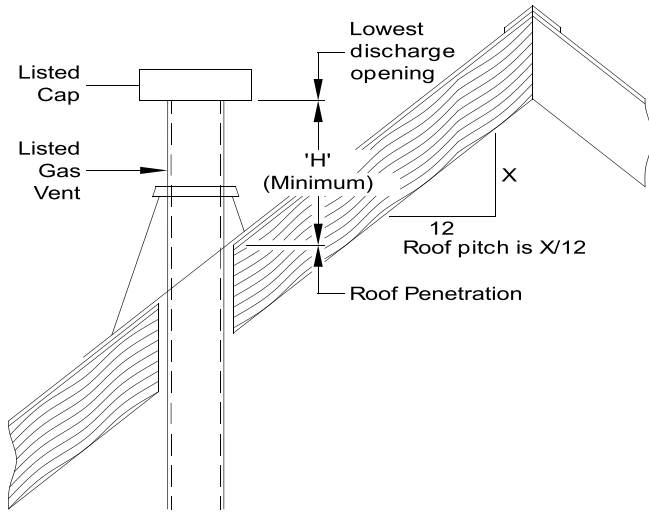

Figure 5-3 : Termination Location for Gas Vent
2. For terminations located at least 8 ft. from vertical wall or similar obstruction, termination shall extend above roof in accordance with Figure 5-3.